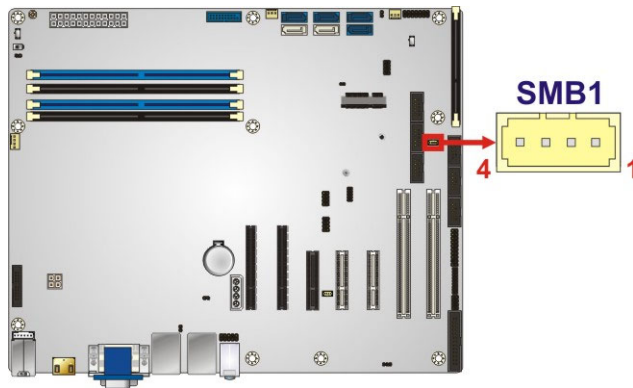

Figure 3-28: SMBus Connector Location
- CN Location:** See **Figure 3-28**